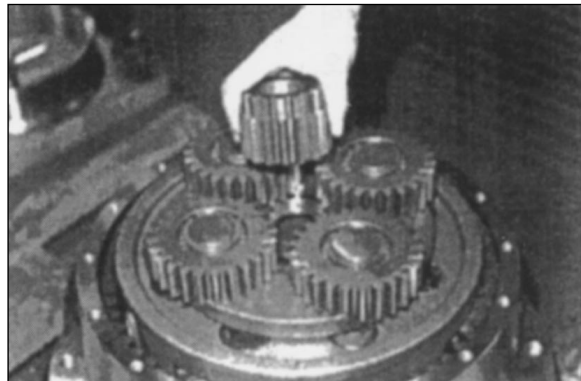

Figure 113
23. Turn housing over and install second shift sun gear. Figure 113.